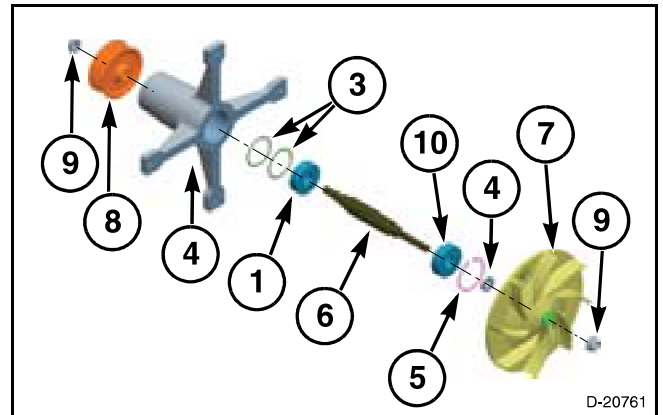

FIG. 21
FIG. 21: Install bearings (1,10) onto the shaft (2). Apply medium strength retaining compound to the outer race of the outer bearing (10) only before assembling.